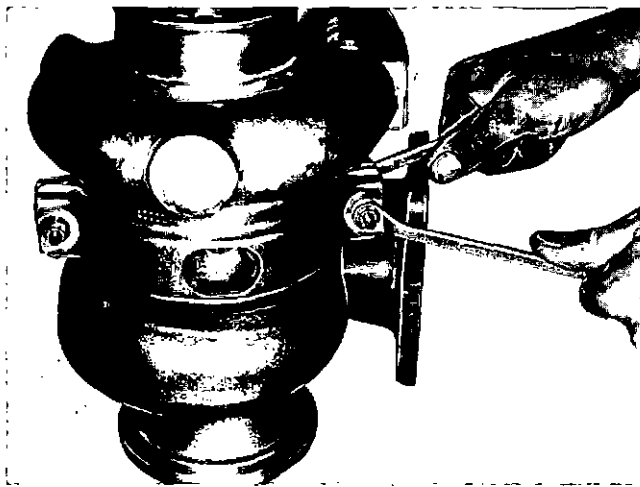

Fig. 2-1, (T-358). Removing the v-band clamps
3. Remove the locknut, flat washers and the bolts securing the V-band clamps to the turbocharger, Fig. 2-1. Lift off the "V"-clamps and discard the locknuts, flat washers and bolts.